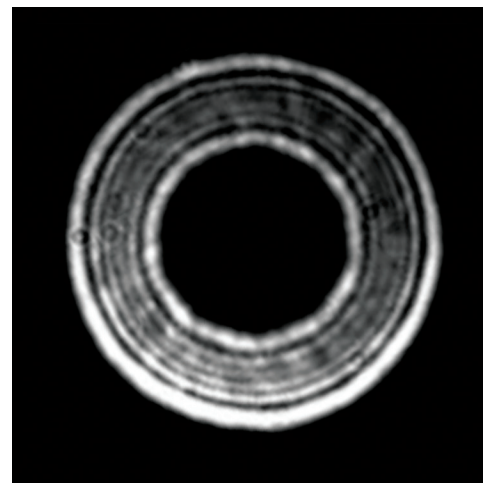
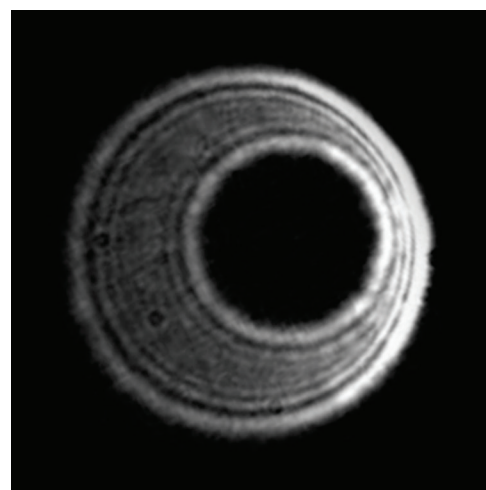

Fig. 2 Out of focus star with proper collimation
Fig. 3 Out of focus star with collimation needed
- 3 Defocus the telescope by about one turn of the focus knob until the star image appears doughnut shaped. There will be brighter rings of light surrounded by a dark hole (i.e. the shadow from the secondary obstruction) in the center (see **Figure 2**). If the telescope is collimated, the hole should appear centered relative to the rings. If the hole is not centered, then adjustment to the collimation is needed (see **Figure 3**).